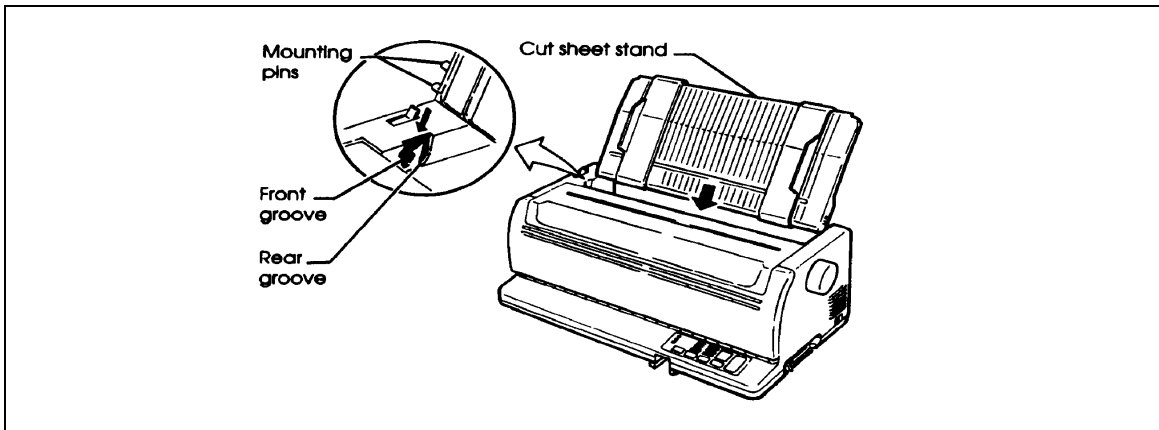

Figure 3-17. Installing the Cut Sheet Stand.
(3) Install the cut sheet stand to allow smooth feeding of both single sheets and continuous forms. The mounting pins and grooves are shown in figure 3-17.